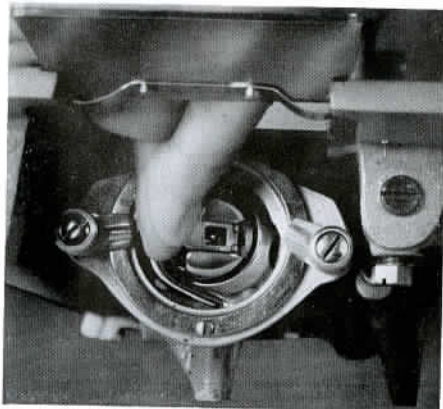

Fig. 8
- the center stud of the shuttle (Fig. 8).